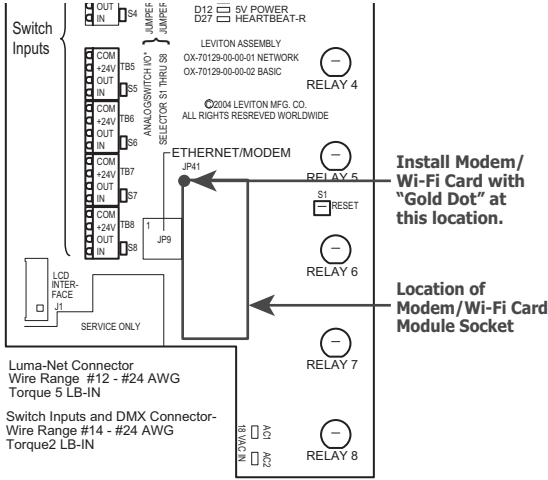

Figure 1A.
- a. Note:** It is very important to align the pins making sure PIN 1 on card aligns with PIN 1 on the EZ-MAX Plus board. Pin 1 is upper left for 8-relay cabinets and upper right for 24-relay cabinets as shown in figures 1A and 1B.